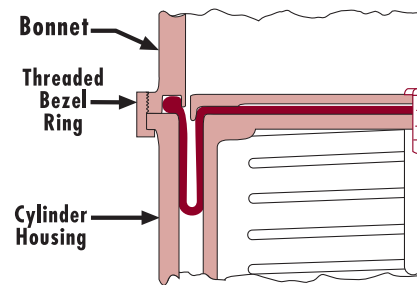

Fig. 31: Bezel Ring or Grooved Bonnet
**Bezel Ring or Grooved Bonnet (fig. 31)** – Many applications require absolute minimum outside diameter of the housing in the plane of the bead retention. A fairly common method of fastening the bonnet to the cylinder housing, and at the same time providing adequate retention, is by using a threaded bezel ring as shown.